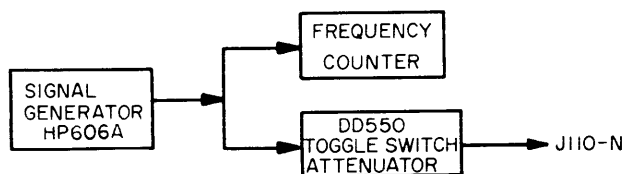

Figure 5-5. Step Generator Z110, Test Setup
1. STEP GENERATOR A, Z110. (See figure 5-5.) Align step generator A as follows:
(1) Remove comb filters Z102 and Z103 from unit and set frequency selector switches on front panel to 03.0000 MHz.
(2) Place scope on collector of transistor Q1 and adjust potentiometer R1 for maximum level.
(3) Place scope at junction of diode CR1 and transformer T1. Adjust transformer T1 for maximum level.
(4) Place scope on collector of transistor Q1 and adjust potentiometer R1 for a level of 2 volts peak-to-peak.
(5) Place scope at junction of diodes CR1 and CR2. Adjust potentiometer R7 for minimum level.
(6) Connect Hewlett-Packard Model 606A signal generator to pin N of J110 as shown in figure 5-5. Set frequency to 1.05 MHz and output level to .4 volt peak-to-peak.
(8), transformer T29 for step (9), and transformer T30 for step (10).
(30) Repeat steps (13) and (14) using pin 4 of J110 and transformer T31 for step (13) and 1.3 MHz to 1.7 MHz and 11.7 MHz to 11.3 MHz for step (14).
(31) Replace Z102 and Z103 in Translator.
m. STEP GENERATORS B, Z111, AND C, Z113. (See figure 5-5.) Align the step generators as follows:
(1) Remove comb filters Z102 and Z103 from unit and set frequency selector switches on front panel to 28.0000 MHz.
(2) Place scope at collector of Q14 on Z113 and adjust potentiometer R78 for maximum level.
(3) Place scope at junction of transformer T11 and diode CR1 and adjust T11 for maximum level.
(4) Place scope at junction of capacitor C104 and resistor R88 and alternately adjust capacitor C101 and potentiometer R84 until minimum level is obtained.
(5) Place scope at collector of transistor Q14 and adjust potentiometer R78 for 2-volt peak-to-peak level.
(6) Connect Hewlett-Packard Model 606A signal generator to pin N of J110 as shown in figure 5-5. Set frequency to 1.6 MHz and output level to .4 volt peak-to-peak.
(7) Connect short jumper across secondary of transformer T13 and place Millivac Model MV-28B millivolt meter at junction of resistor R88 and capacitor C104.
(8) Adjust transformer T12 for maximum level indication on meter.
(9) Remove jumper and adjust transformer T13 for dip or minimum indication on meter.
(10) Repeat steps (7) through (9) using transformer T15 and transistor Q15 collector for step (7), transformer T14 for step (8) and transformer T15 for step (9).
(11) Repeat steps (7) through (9) using transformer T17 and transistor Q16 collector for step (7), transformer T16 for step (9) and transformer T17 for step (9).
(12) Place scope at pin N of J113 and adjust transformer T18 for maximum level indication.
(13) Vary frequency of 606A generator from 1.4 MHz to 1.8 MHz. Output level on scope should be .5 volt peak-to-peak minimum at frequency of 10.6 MHz to 10.2 MHz correspondingly.
(14) Adjust 606A generator to 1.075 MHz with output level set at .4 volt peak-to-peak and change frequency selector switches on front panel to 23.0000 MHz.
(15) Repeat steps (7) through (9) using transformer T20 and junction of resistor R87 and capacitor C103 for step (7), transformer T19 for step (8) and transformer T20 for step (9).
(16) Repeat steps (7) through (9) using transformer T22 and transistor Q18 collector for step (7), transformer T21 for step (8) and transformer T22 for step (9).